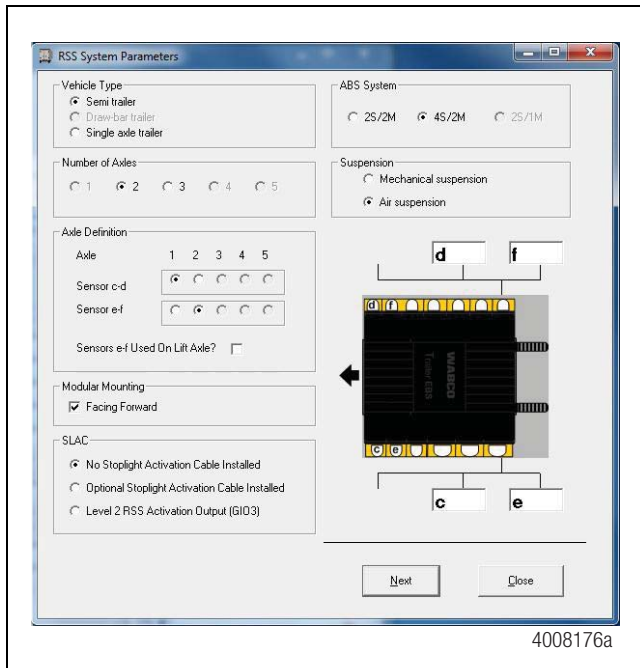

Figure 10
- From the first parameter screen labeled *RSS System Parameters*, press the **Next** button located at the bottom of the window. There is no change in parameters at this screen. Figure 10.